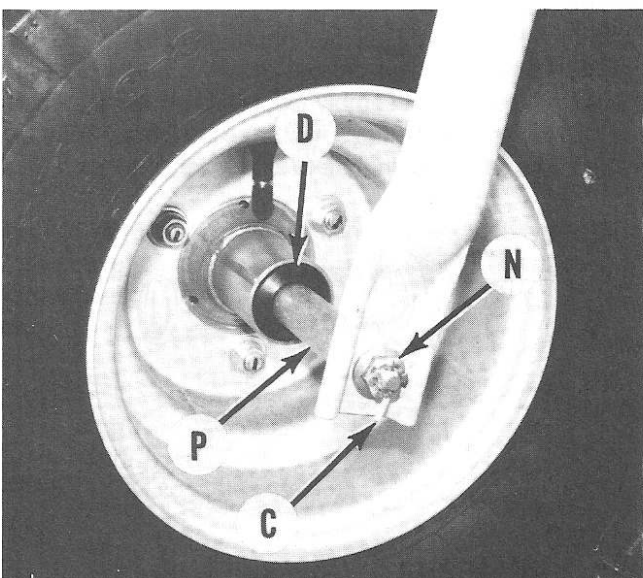

Fig. Y4-12—View of front wheel used on all models except YT175J and YT175K.
The front axle is supported by two wheel bearings. The front wheel and axle assembly may be removed after supporting the front of the vehicle, removing cotter pin (C—Fig. Y4-12) and unscrewing axle nut (N).